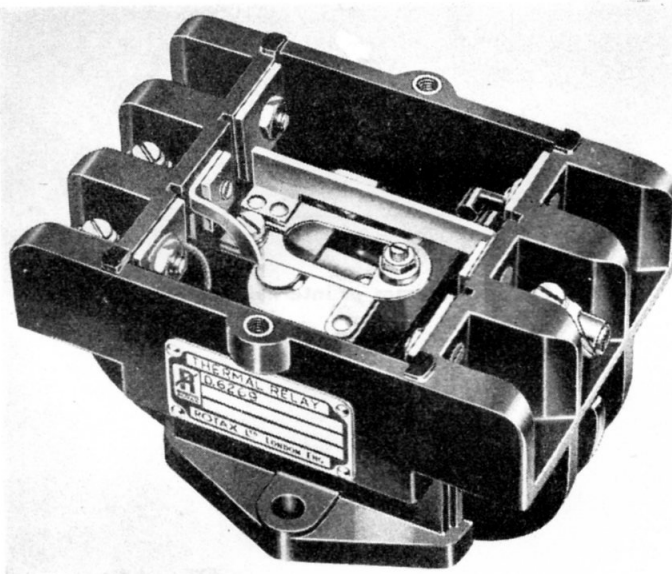

Fig. 1. Type 2A, No. 4 thermal switch, without cover
2. The Type 2A, No. 4 thermal switch is illustrated in fig. 1 and is similar in construction to those described in A.P.4343, Vol. 1, Sect. 11, Chap. 6. Operating from a single line d.c. supply, the unit has only one central line connection strip and one bi-metal